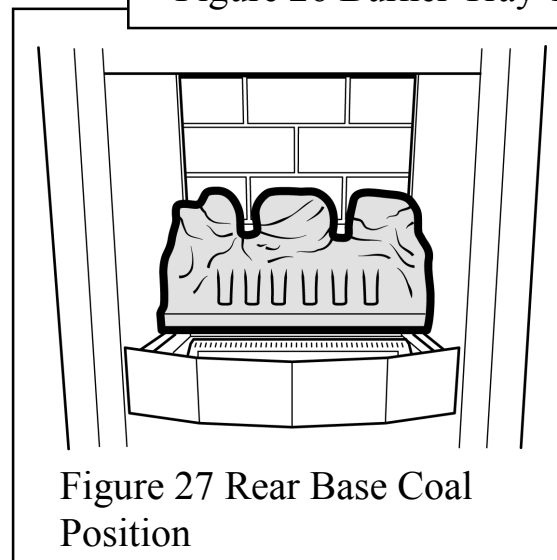

Figure 27 Rear Base Coal Position
2. Place the rear base coal in the firebox. It should rest on the ledges at the sides and back of the firebox and its rear face should touch the rear ceramic wall. See figure 27.